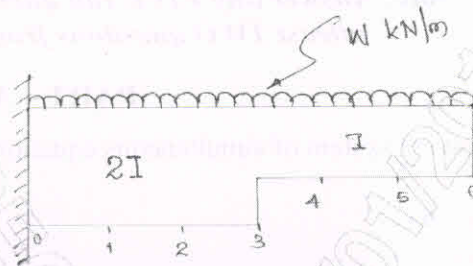

Fig.Q5
- 5 A cantilever with varying moment of inertia and of span L supports a uniformly distributed load of W kN/m as shown in Fig.Q5. Assuming six segments points estimate the maximum deflection and slope in cantilever by New mark's method. (20 Marks)